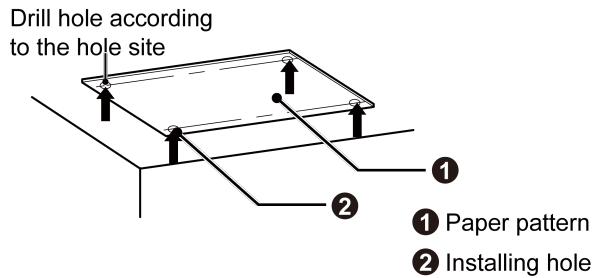
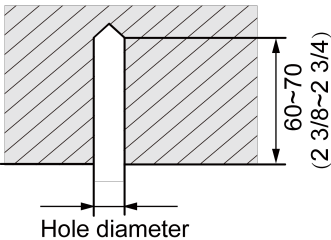

Fig.4.1.2
Fig.4.1.3
- 1) Stick the reference cardboard on the installation position; drill 4 holes according to the hole site on the cardboard as shown in Fig.4.1.2; Diameter of drilling hole is according to the diameter of expansion bolt and the depth is 60-70mm (2-3/8~2-3/4 inch), as shown in Fig.4.1.3.